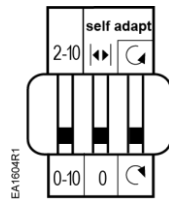

Figure 17. OFF Position (Factory Setting).
To use the entire 0(2) to 10V input signal to control the mechanically limited range, see Figure 17 for setting self-adaptive features.